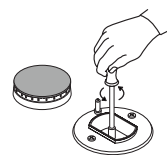

fig.9
- Unscrew the nozzles (fig. 9), using a 7 mm socket spanner and replace them with nozzles for the new type of gas (see table 1 "Burner and nozzle characteristics").